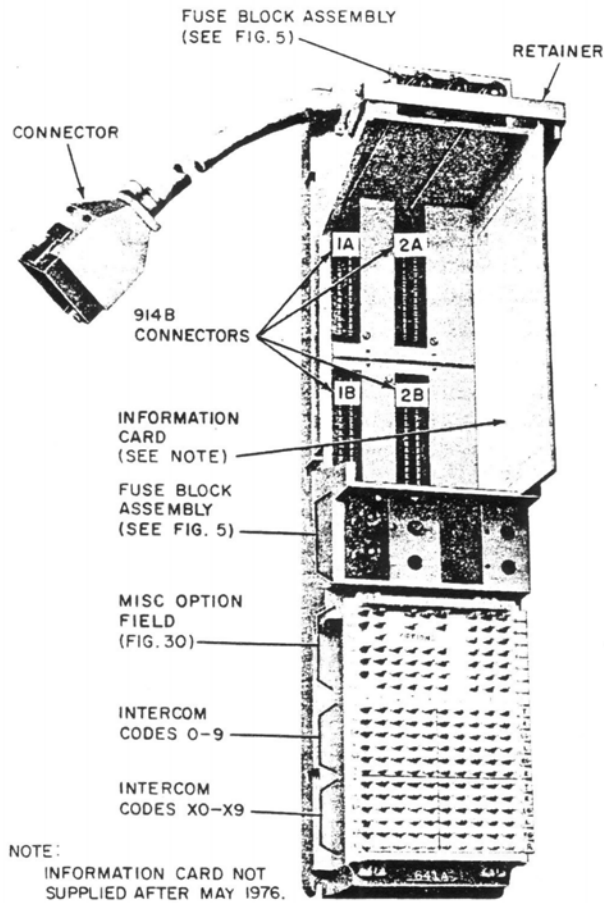

Fig. 3—641A Modular Panel
**D. 641A Modular Panel (Fig. 3)**
- Terminal field (YELLOW) utilized by all connectors for a common dial intercom service [NOT related to individual connectors by quadrants as on the 620A (MD), 620A2, and 642A panels]